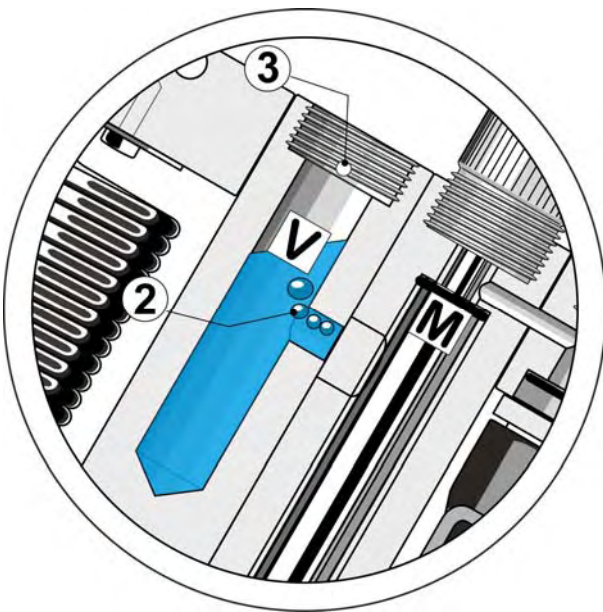

Figure:3.2
3. If required, remove air bubbles from the diaphragm bridge (2) by slightly tilting the analyser block (Figure3.2).
When screwing in the reference electrode, excess KCl solution will leave the bore (3) (Figure 3.2). Please collect the liquid with absorbent paper.